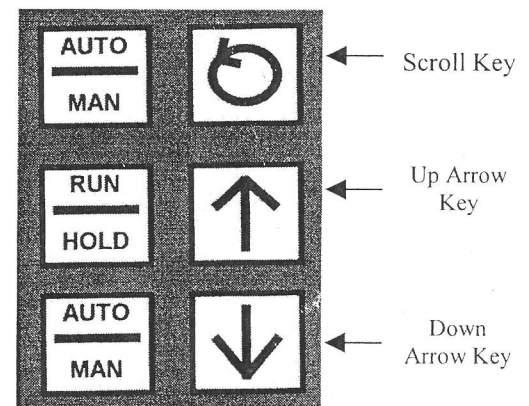

Figure 2
7. Push the up arrow key until a temperature reads in the Temperature Window (Fig. 2)